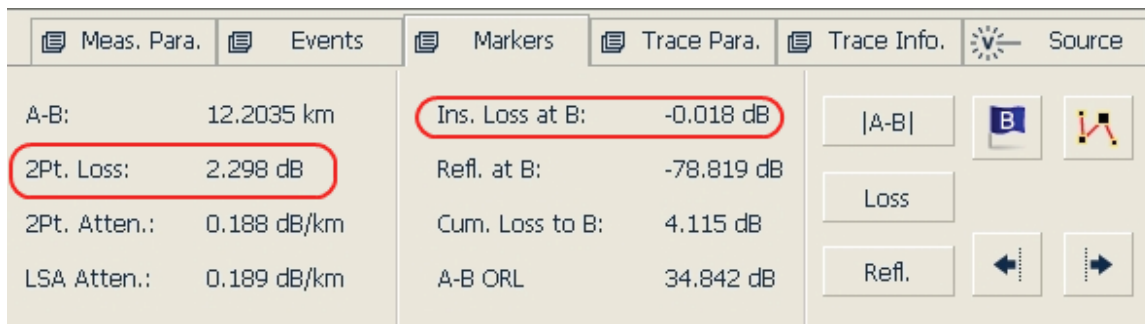

Fig 12.1 Event Location and Loss Information
3. Fig 12.1 shows the insertion loss of current Marker and A-B loss.